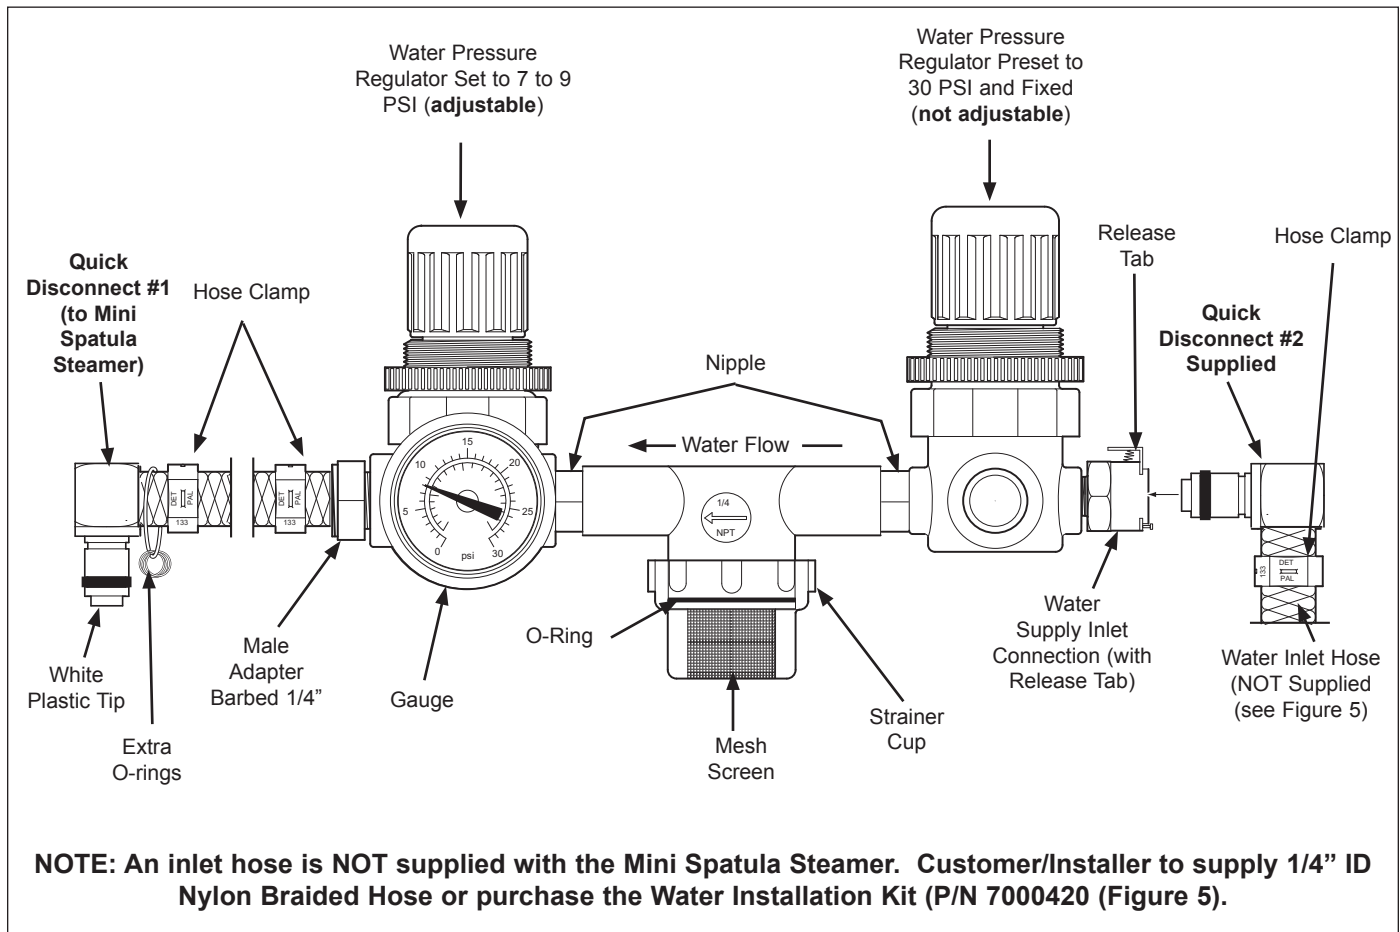

Figure 5. Dual Water Pressure Regulator
1. Press the Release Tab and remove the Quick Disconnect Fitting #2 (Figure 5). Unscrew the clear, plastic strainer "cup" and carefully remove the mesh strainer screen (Figure 5).
2. Over a bucket, press and hold the white plastic tip on the Quick Disconnect #1 (Figure 5 until good, steady water flow is noted (this will purge all air out of the line). Release and note the pressure on the Water Pressure Regulator gauge. It should read 7-9 PSI. If it reads more or less, adjust the pressure by pulling the black knob upwards and turning it clockwise to increase or counter-clockwise to decrease the water pressure. Push the knob down to lock it in place.
The Dual Water Pressure Regulator uses a fixed regulator and an adjustable regulator (Figure 5). The adjustable regulator must be set between 7 - 9 PSI (0.4 - 0.6 kg/cm2 or 48 - 62 kPa). Follow these steps to adjust this regulator:
**NOTE: Three (3) spare O-Rings are attached to the Quick Disconnect #1 (Figure 5). Additional O-Rings can be obtained by ordering part number 020P117 (10 pack).**
5. Wipe down the entire exterior of the unit (Figure 5) with a clean, hot, damp cloth (not dripping wet) and wipe dry.
4. With the unit cool, use a wire brush and/or scraper to loosen and remove the excessive calcium/mineral deposits from the generator surface (Figure 5). Remove the loose build up, wipe the generator with a clean, damp cloth.
3. Set the adjustable Water Pressure Regulator (Figure 5) between 20-25 PSI.
The Water Strainer (Figure 5) protects the unit from any foreign debris in the water line that could get into the food, damage the unit's solenoid (causing the unit to leak or flood), or interfere with the equipment's proper and consistent operation.
1. Remove the Quick Disconnect #2 (Figure 5) from the incoming water supply or shut off the water supply valve to the unit. Unscrew the clear plastic strainer "cup" and carefully remove the mesh strainer screen.